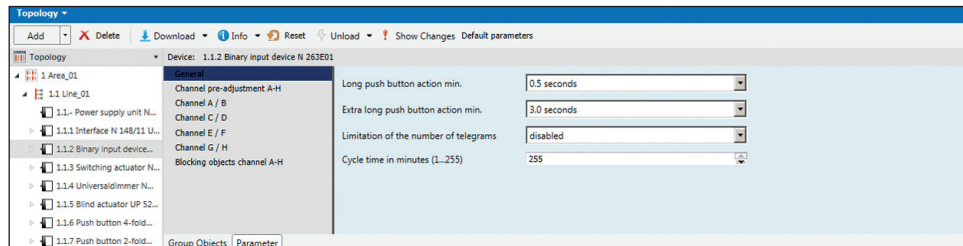

Figure 32. Defining the parameters for a bus device
- Defining the parameters for KNX products as required. In the case of a push button, for example, it is necessary to define whether the push button is to be a dimmer switch, a push-button for controlling blinds, or a simple push button for switching a light on and off (Fig. 32). In the case of an actuator, these parameters determine how